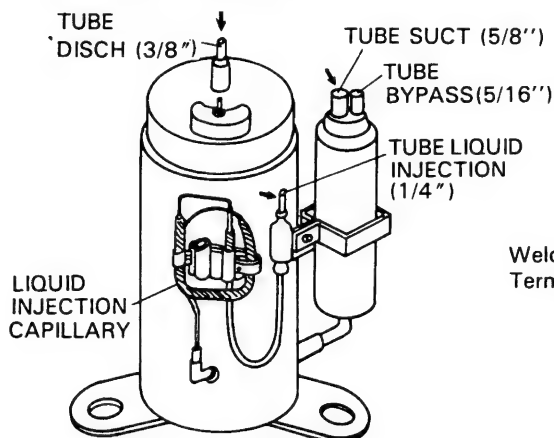

Fig. 19
- 5) With an Oxy-Acetylene torch apply heat uniformly and unbrazed the joints of upper section of the Liquid Injection Capillary tube to the compressor, the upper section of the accumulator and the upper section of the compressor discharge tube respectively, and pull them free with pliers. Fig. 19 shows unbrazing points with arrows.